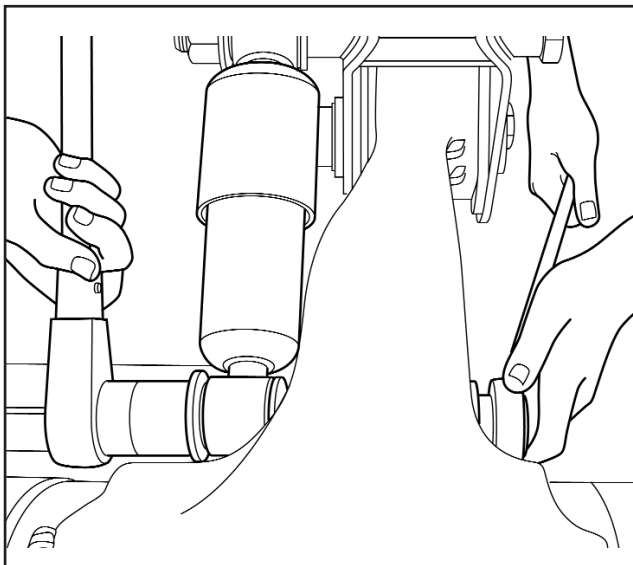

Fig 4.13
1. With the trailer in its normal ride height (un-laden) using a 36 mm socket and ring spanner, remove the nuts and washers from the upper and lower damper bolts (Fig 4.13).